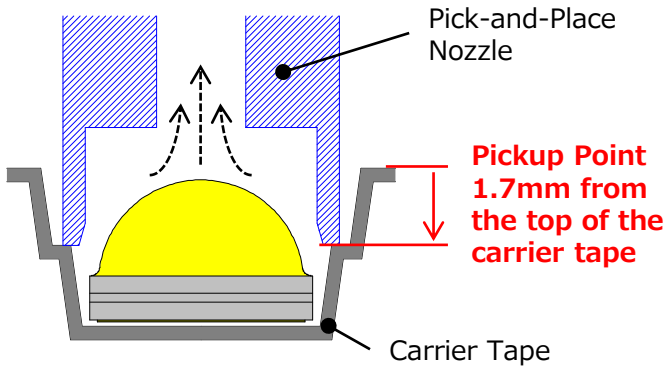

Figure 6. Recommended Nozzle Height for Pick-up Operations
- Pick-and-place nozzle should be 1.7mm inside from the top of carrier tape to pick up the LED. (see Fig. 6)